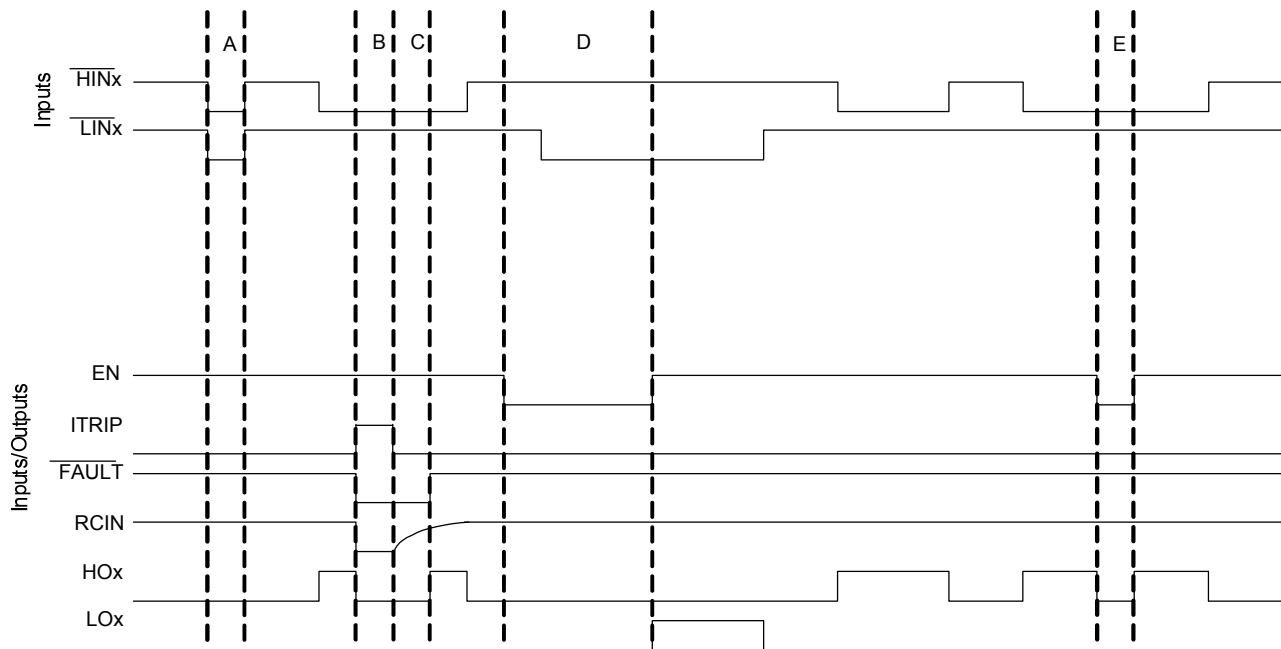

Figure 5: Input/output timing diagram for AUIRS2336S
During interval A of Figure 5, the HVIC has received the command to turn-on both the high- and low-side switches at the same time; as a result, the shoot-through protection of the HVIC has prevented this condition and both the high- and low-side output are held in the off state.
Interval B of Figures 5 and 6 shows that the signal on the ITRIP input pin has gone from a low to a high state; as a result, all of the gate drive outputs have been disabled (i.e., see that HOx has returned to the low state; LOx is also held low), the voltage on the RCIN pin has been pulled to 0 V, and a fault is reported by the FAULT output transitioning to the low state. Once the ITRIP input has returned to the low state, the output will remain disabled and the fault condition reported until the voltage on the RCIN pin charges up to  $V_{RCIN,TH}$  (see interval C in Figure 6); the charging characteristics are dictated by the RC network attached to the RCIN pin.
During intervals D and E of Figure 5, we can see that the enable (EN) pin has been pulled low (as is the case when the driver IC has received a command from the control IC to shutdown); this results in the outputs (HOx and LOx) being held in the low state until the enable pin is pulled high.